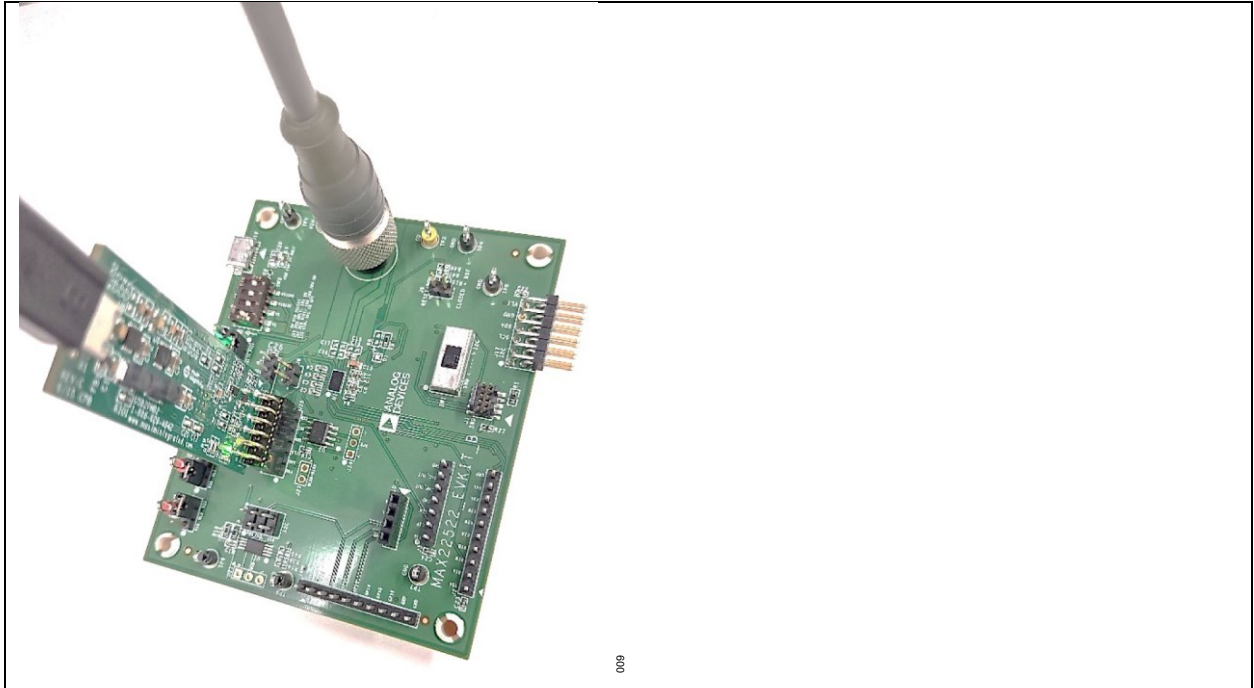

Figure 8. USB2PMB2 Connection to Program On-Board EEPROM
1. Connect the SPI controller to the J25 header (see Figure 8). Signals on the J25 header are laid out using the standard Pmod connector pinout.